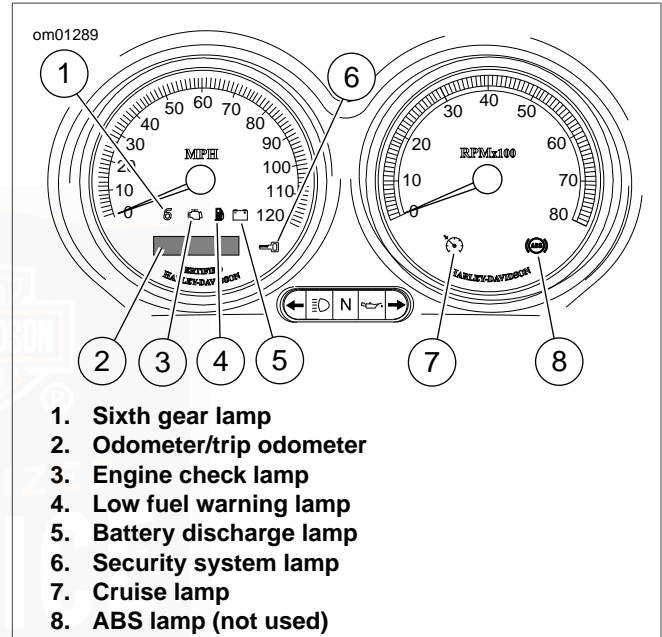

Figure 7. Indicator Lamps
See Figure 7. The speedometer registers miles per hour of forward speed. The speedometer has a single display for the following selectable functions:
1. See Figure 7. Pressing the function switch with the ignition switch in any position will activate the odometer reading. Mileage may be checked without unlocking ignition switch. Press and release function switch once to view odometer.
See Figure 7. The engine check lamp is located near the lower left side of the speedometer face. Its purpose is to indicate whether or not the engine/engine management system is operating normally. The engine lamp color is amber.
See Figure 7. The low fuel lamp is located in the speedometer face, lower center by check engine lamp. The low fuel lamp indicates low fuel level in the tank. Refer to Table 8. Refill the tank as soon as possible. The low fuel lamp color is amber.
See Figure 7. The red battery charging lamp indicates either overcharging or undercharging of the battery. Refer to **MAINTENANCE AND LUBRICATION, Battery: General**.
See Figure 7. A green lamp on the tachometer face indicates the cruise control is SET or NOT SET. An orange lamp on the cruise control switch indicates the cruise control is ON or OFF. Refer to **CONTROLS AND INDICATORS, Cruise Control Operation**.
See Figure 7. The amber sixth gear lamp on the speedometer face indicates when the transmission is in sixth gear.
See Figure 7. The red security system lamp on the speedometer face indicates when the security system is armed. Refer to **HANDS-FREE SECURITY MODULE, Harley-Davidson Smart Security System**.
1. See Figure 7. Turn the cruise control switch to the ON position. The orange icon on the cruise gauge face will light when activated.